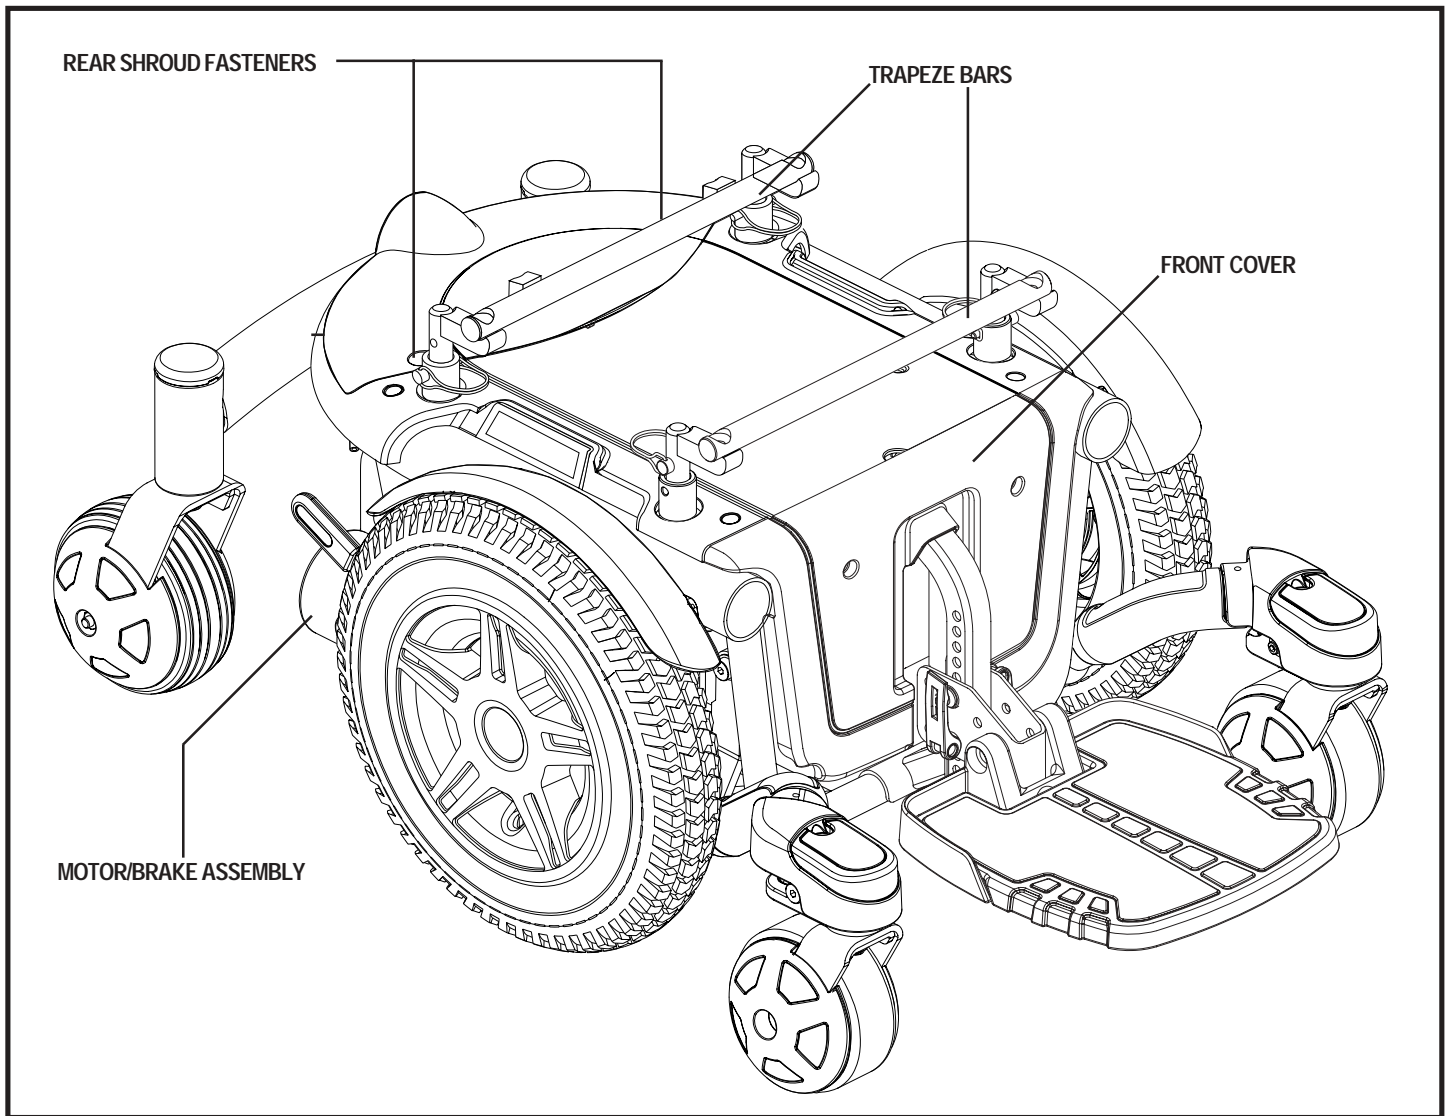

Figure 6. The Jazzy 600 Series Power Base
2. Loosen the rear shroud fasteners and remove the rear shroud. See figure 6.